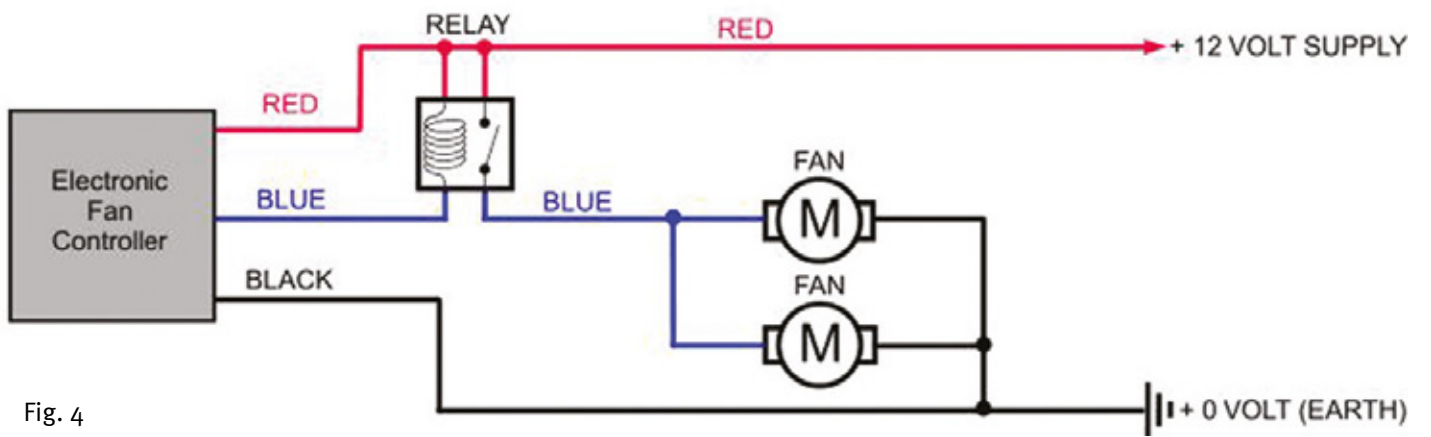

Fig. 4
6. Position the fan controller in a suitable place in the top hose, reconnect and refill the water system, connect the fans in parallel as shown in Fig.4, follow the separate Electronic Fan Controller instructions for information on wiring and setup.